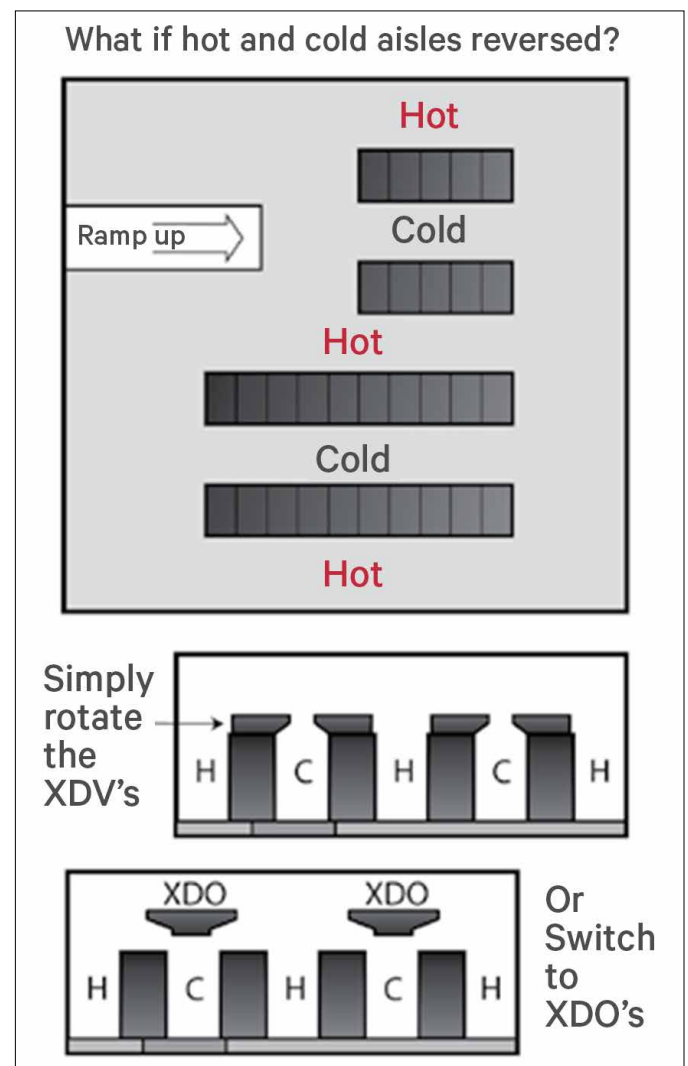

Figure 13: Adapting to change in hot and cold aisles.
1. What if the hot and cold aisles are reversed, as shown in Figure 13? You can simply turn the XDV cooling modules around. Or Liebert XDO cooling modules may be more appropriate than the Liebert XDV. You can also mix and match cooling modules as needed.